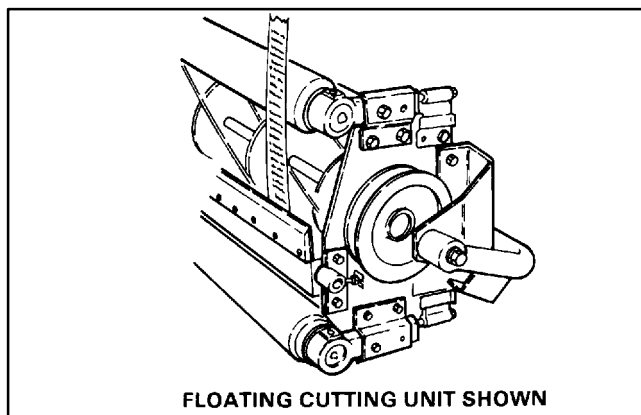

Figure 21
1. Make sure reel contact is removed by turning bedknife adjustment knob counterclockwise (Fig. 20). Tip cutting unit to gain access to reel and bedknife (Fig. 21).